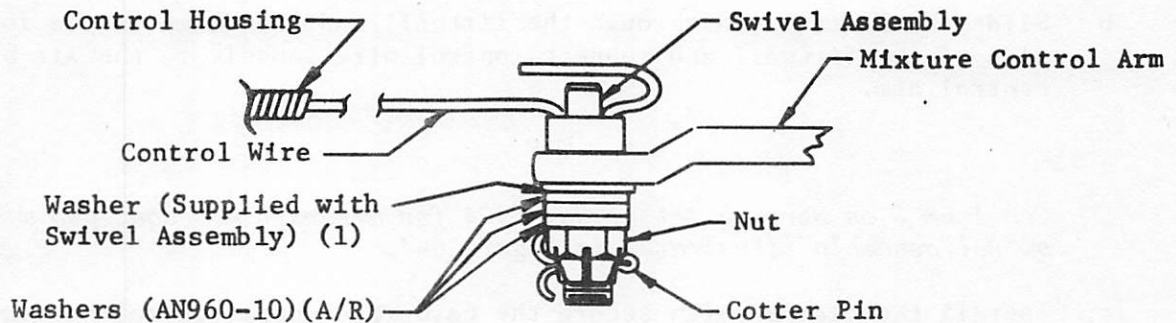

Figure 6-3. Mixture Control Installation
*See Item 3 on Service Letter No. 74-4 for aircraft not equipped with swivel assembly illustrated in Figure 6-3.*
- f. Bend mixture control wire as shown on Figure 6-3 and install the cotter pin. Check swivel freedom in arm.